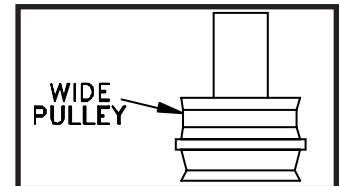
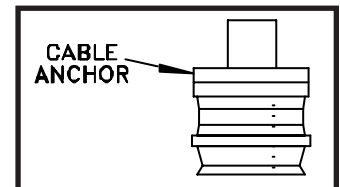

Figure 14
Figure 15
6. Set the wide pulley on top of the pulley divider. It is symmetrical so it can be put on either way. (Figure 14) Set the cable anchor on top of the wide pulley with the groove facing you and the notch out of the corner to your right. (Figure 15)